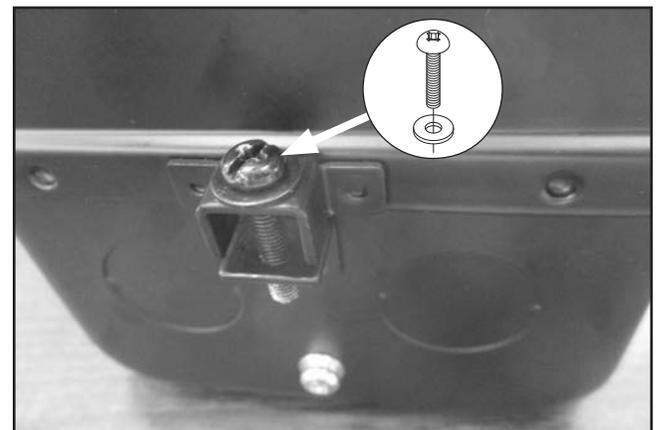

Figure 33. Location of securing fasteners on magnetic switch box.
48. Remove securing Phillips head screw and washer and open magnetic switch box on Model G0441 switch bracket (see **Figure 33**).